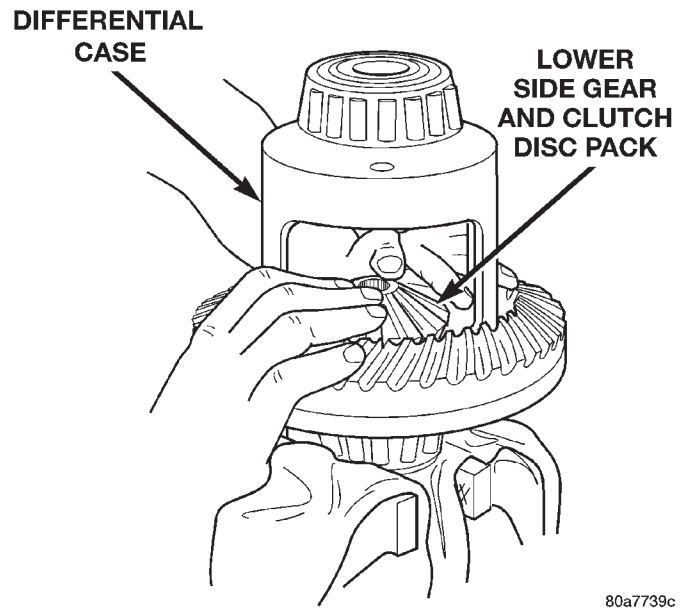
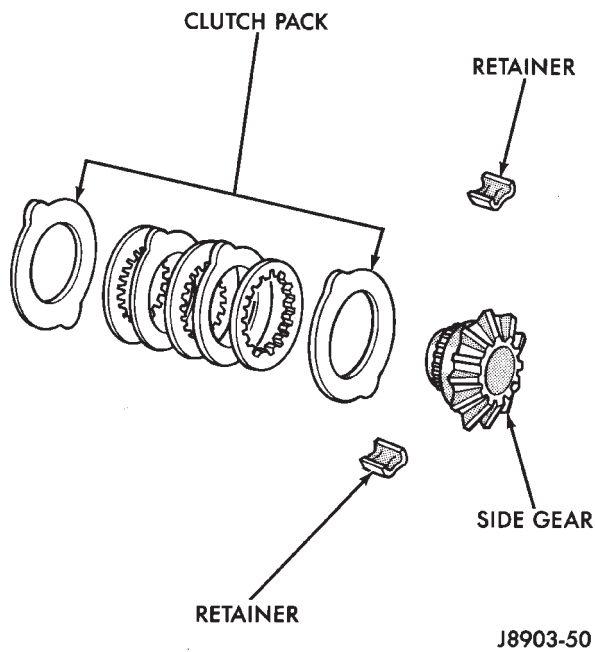
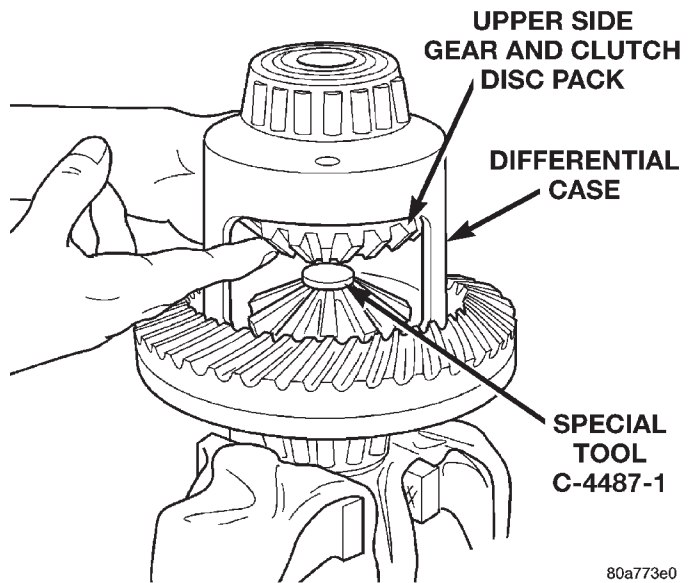

Fig. 73 Clutch Discs & Lower Side Gear Installation
Fig. 72 Clutch Disc Pack
Fig. 74 Upper Side Gear & Clutch Disc Pack Installation
(1) Assemble the clutch discs into packs and secure disc packs with retaining clips (Fig. 72).
(2) Position assembled clutch disc packs on the side gear hubs.
(3) Install clutch pack and side gear in the ring gear side of the differential case (Fig. 73). **Be sure clutch pack retaining clips remain in position and are seated in the case pockets.**
(4) Position the differential case on Side Gear Holding Tool 6963-A.
(5) Install lubricated Step Plate C-4487-1 on side gear (Fig. 74).
(6) Install the upper side gear and clutch disc pack (Fig. 74).
(7) Hold assembly in position. Insert Threaded Adapter C-4487-3 into top side gear.
(8) Insert Forcing Screw C-4487-2.
(9) Tighten forcing screw tool to slightly compress clutch discs.
(10) Place pinion gears in position in side gears and verify that the pinion mate shaft hole is aligned.
(11) Rotate case with Turning Bar C-4487-4 until the pinion mate shaft holes in pinion gears align with holes in case. It may be necessary to slightly